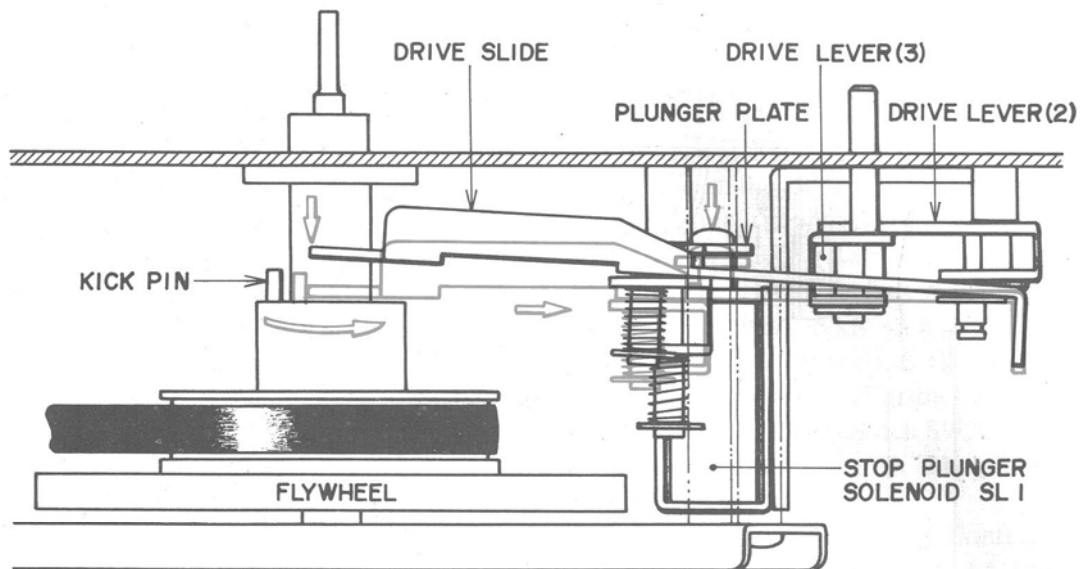
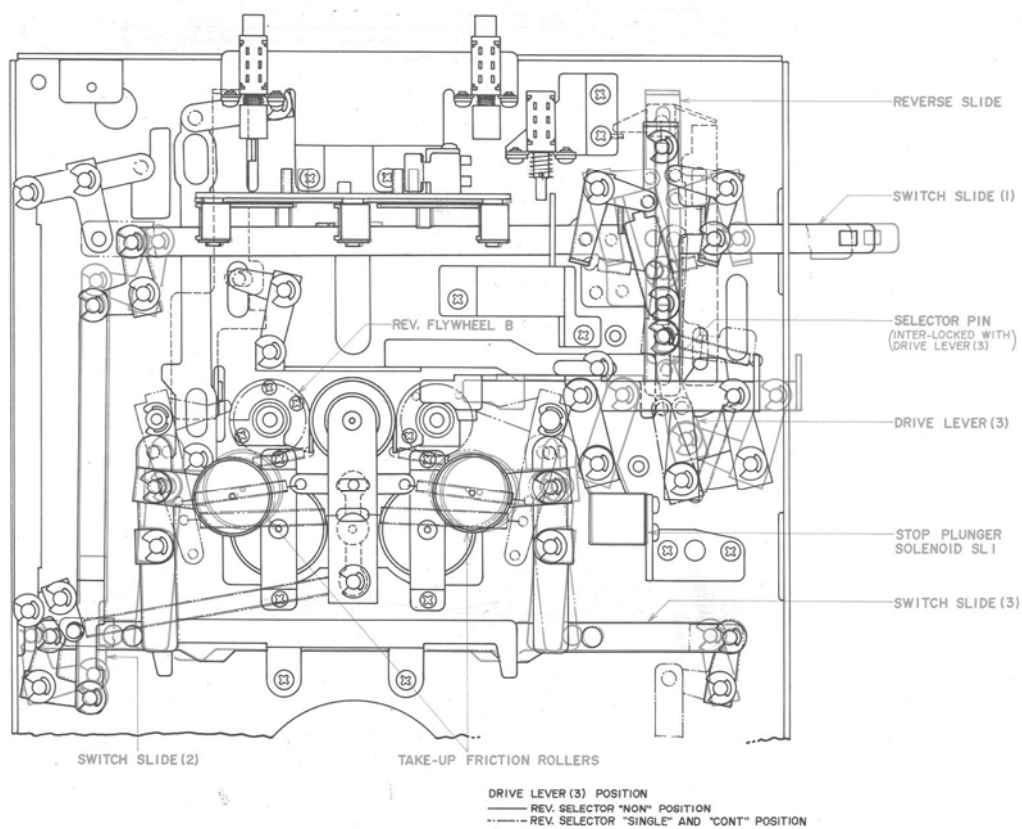

Fig. 29
Fig. 32 Reverse Selector : SINGLE ↺ From FWD to REV Operation
(Refer to Figs. 29, 30)
- b) When Stop Plunger Solenoid SL1 operates, drive lever (1) which is interlocked with the stop plunger solenoid and the drive slide are momentarily pulled downward. (Refer to BASIC FUNCTION OF KICK MECHANISM, Fig. 29)
- c) When Stop Plunger Solenoid SL1 operates, drive lever (1) interlocked with the plunger plate and the drive slide, are momentarily pulled downward. (Refer to Fig. 29) At this time, the flywheel kick pin kicks the pulled down drive slide and drive slide moves in right direction.
(Refer to Fig. 32)
- a) When FWD recording or playback ends and the tape stops, because the REV Selector is set to SINGLE ⇐ and drive lever (3) is right above the reverse slide as shown in Fig. 32, drive lever (3) selector pin depresses the reverse slide by means of the basic function of the kick mechanism (Refer to Fig. 29).
* For mechanism change from FWD to REV, refer to Item 3) and Fig. 32.